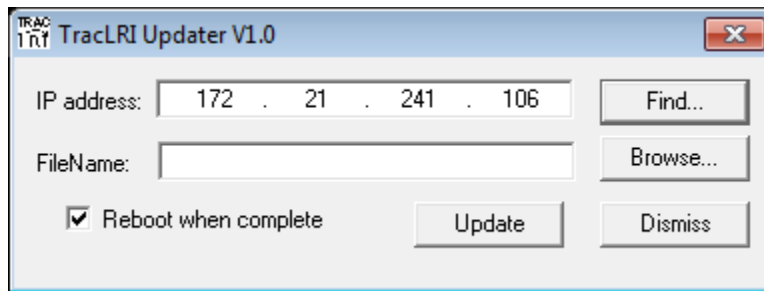

Figure 8. Updater w/ TracLRI selected
13. At this point the current IP address assigned by DHCP should appear in the IP Address line. **Fig.8**